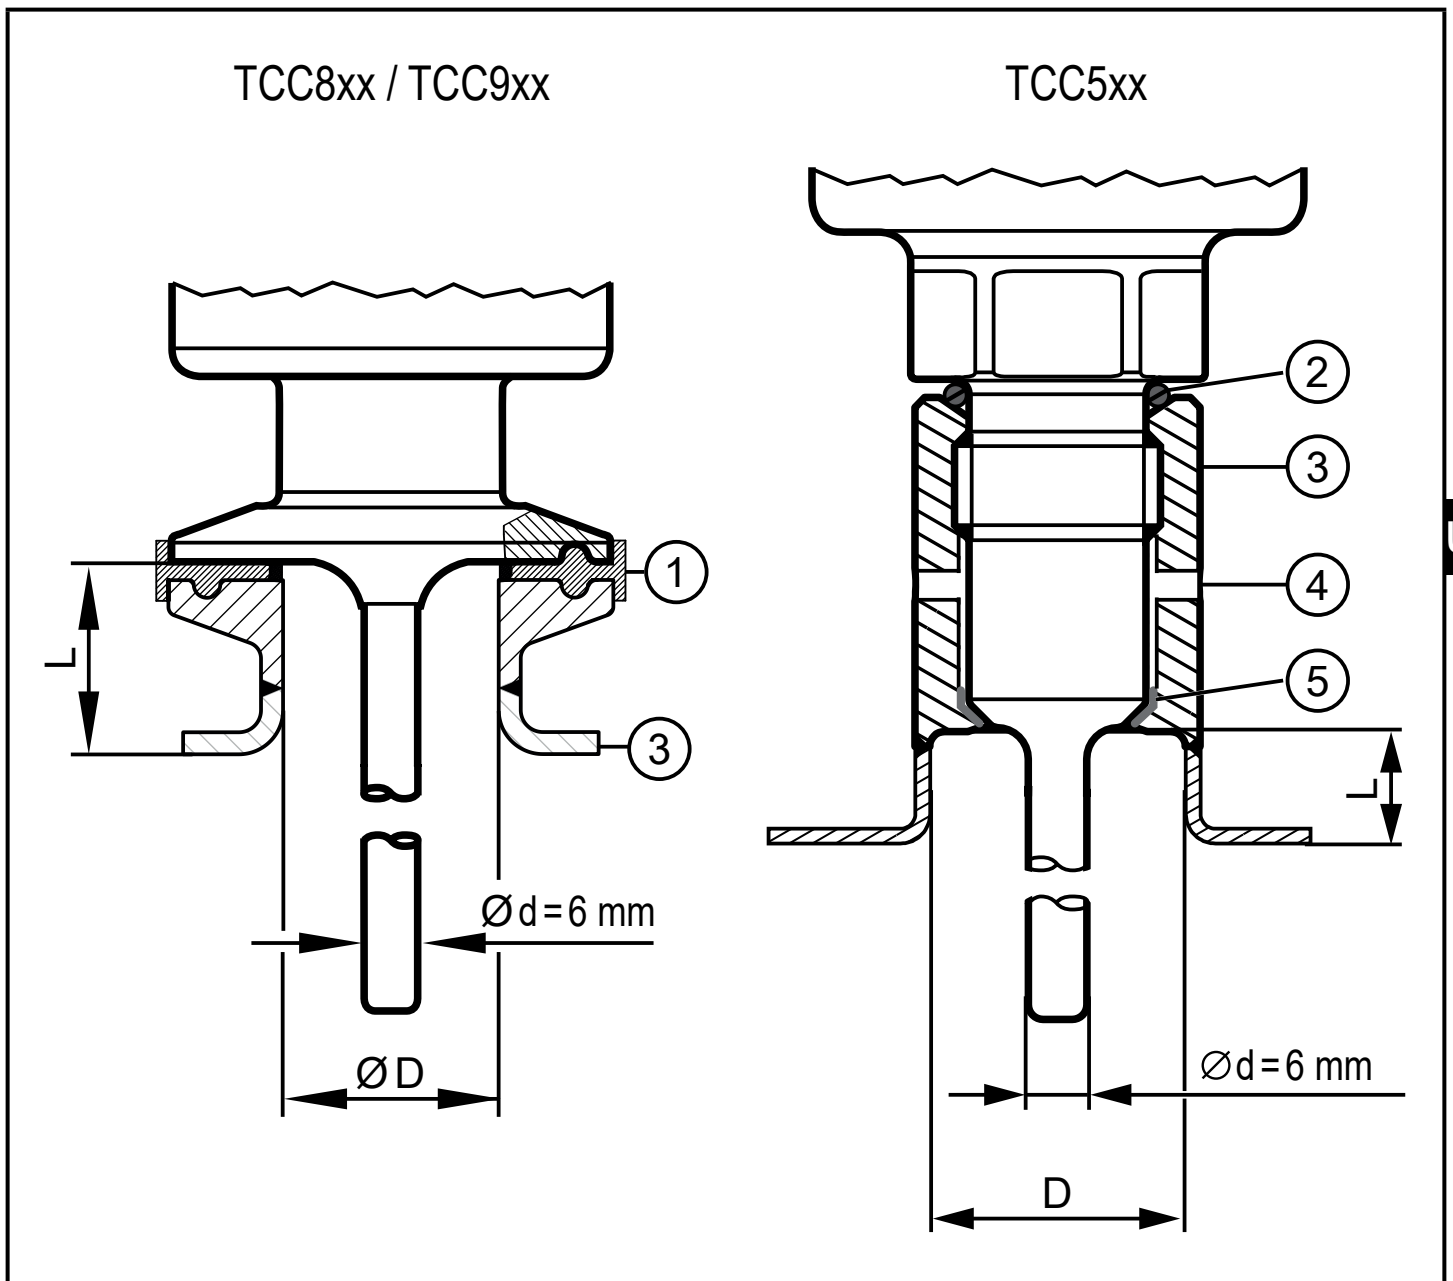

Fig. 1: mounting dimensions for use according to EHEDG
- ▶ Adhere to the dimensions shown in Fig. 1 to avoid dead space: $L < (D - d)$.
The sealing ring between the housing and the process connection (Fig. 1 → 6.2) can compensate for variable insertion depths and tolerances and provides protection against the ingress of media in the thread area.